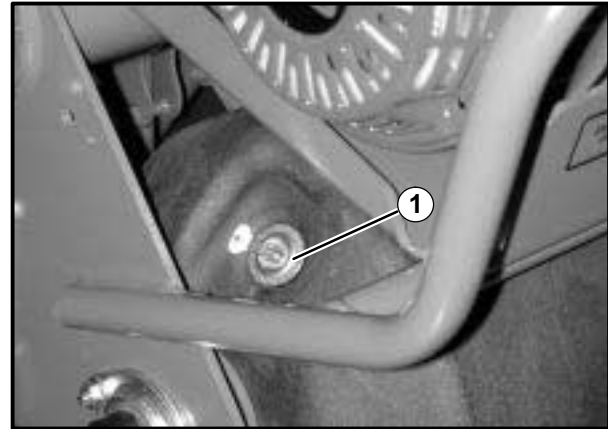

Figure 12
1. Rotate the water drum on the front of the unit until the filler plug is positioned at the top. Remove the plug, fill the drum with water and replace the plug. See Figure 12.